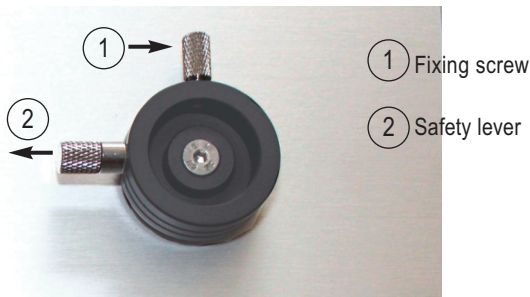

Figure 10 Media holder socket on the top side of the device
- if necessary fix, with the fixing screw (1) as shown in figure 10.
If the media holder cannot be inserted into the socket, the fixing screw (1) in figure 10 may need to be released slightly.
- release the fixing screw (1) as shown in figure 10.
- unlock by pulling the safety lever (2) as shown in figure 10 and at the same time lift the media holder upwards.